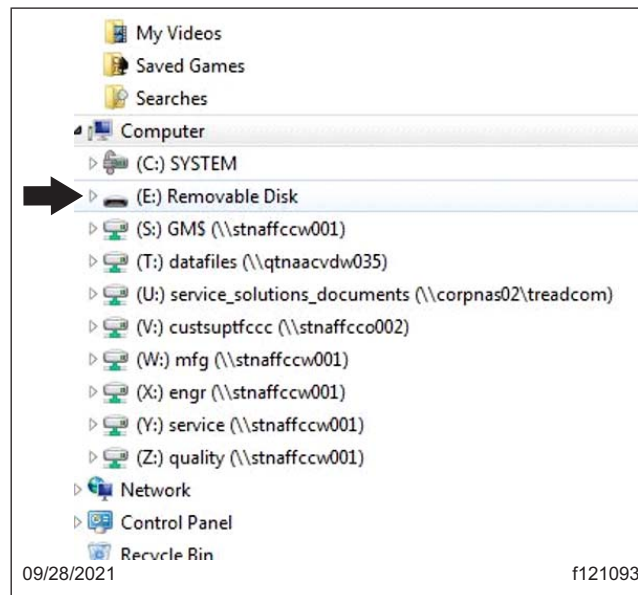

Fig. 1, Flash Drive Connected to the Laptop
2. Insert the flash drive into an available USB port on the laptop. Write down the drive letter the computer assigns to that flash drive. See Fig. 1.